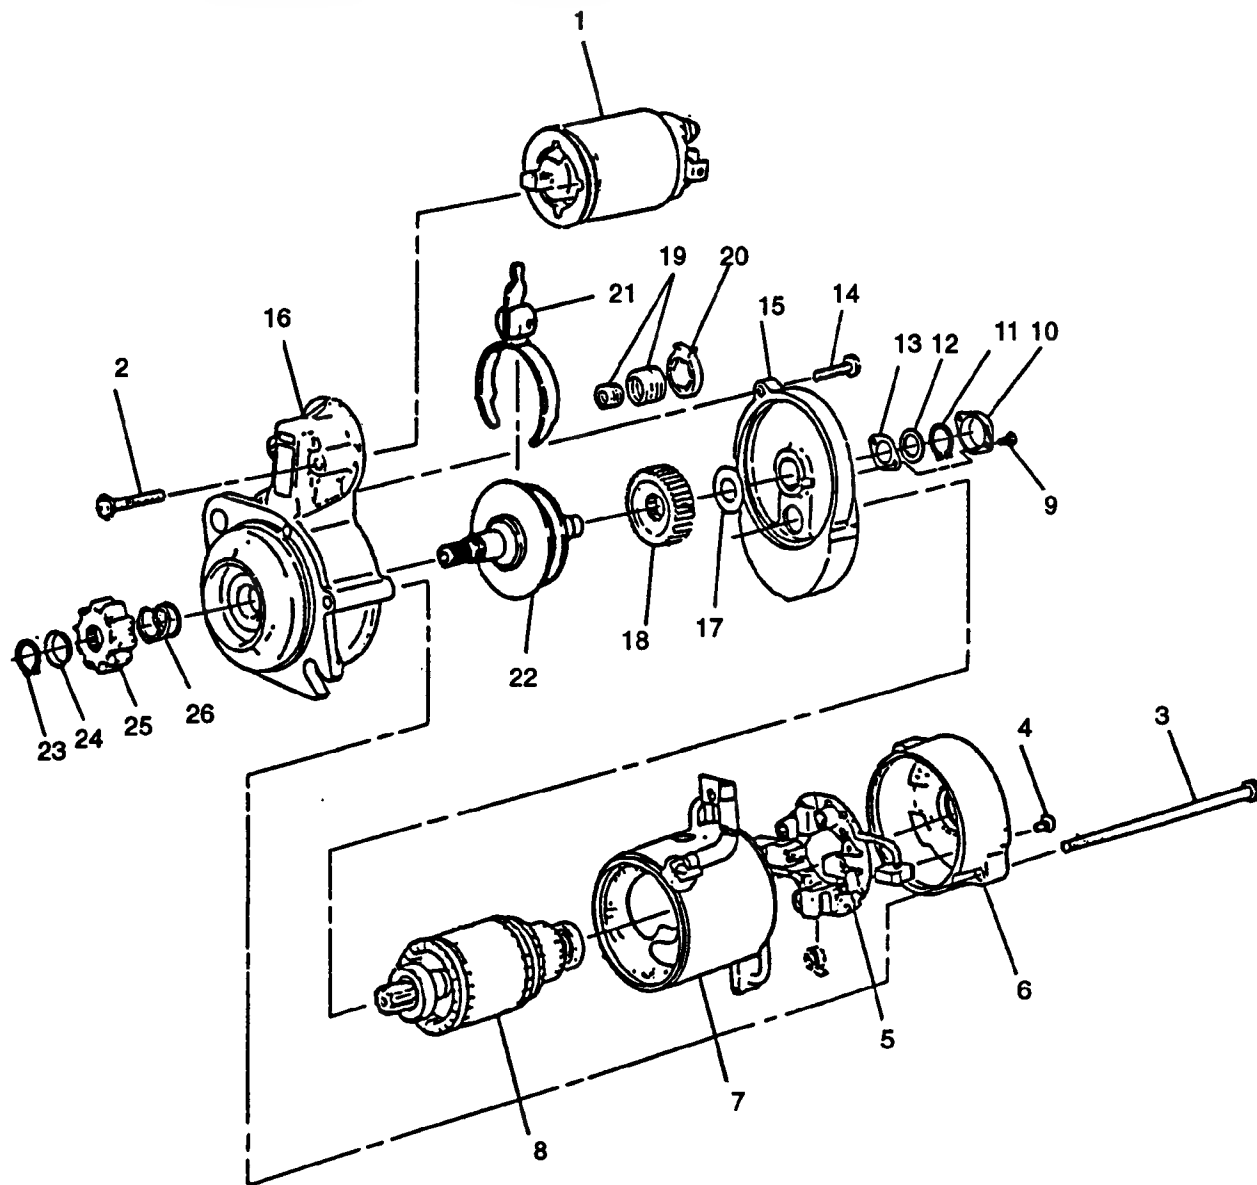

FIGURE 3-22. Starter Assembly
- a. Tag and disconnect wire from solenoid (1, FIGURE 3-22).
- b. Remove two screws (2) securing solenoid (1); remove solenoid.
- (1) Armature (8, **FIGURE 3-22**) shaft gear.